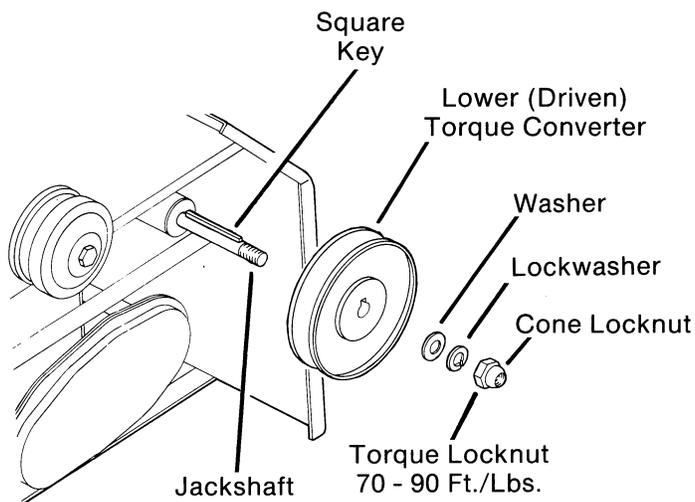

FIG. 15
- F. Holding a wrench on each locknut on ends of jackshaft, loosen locknut on "driven" torque converter side. (Fig. 15)
- G. Using a block of wood and hammer, drive jackshaft in far enough so that "driven" torque converter can be removed. (Fig. 15)
- E. Holding a wrench on each locknut on ends of jackshaft, loosen locknut on "driven" torque converter side. (Fig. 15)
- F. Using a block of wood and a hammer, drive jackshaft in so that "driven" torque converter, drive key and washers can be removed. (Fig. 15)